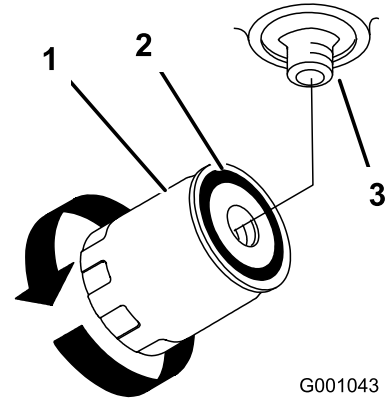

Figure 73
7. Apply a thin coat to the rubber gasket on the replacement filter (Figure 73).
9. Fill the hydraulic tank with hydraulic fluid until the fluid overflows the filter and then turn the oil filter clockwise until the rubber gasket contacts the filter adapter, then tighten the filter an additional 1/2 turn (Figure 73).